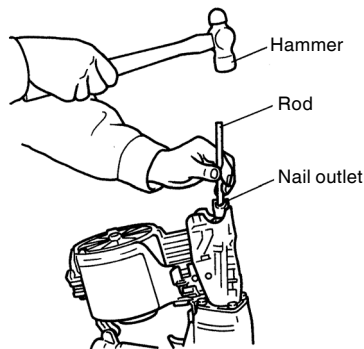

Fig. 18
- (1) Remove the nail roll from the magazine, open the nail guide, insert a rod into the nail outlet and tap the rod with a hammer. (**Fig. 18**)